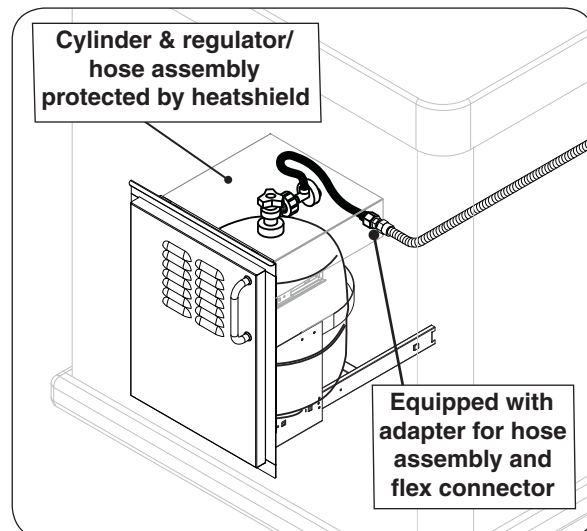

Fig. 11-3 Optional RHP door w/tank tray
- **RHP offers a propane cylinder door with tank tray to meet the cylinder install requirements. See Fig. 11-3.**